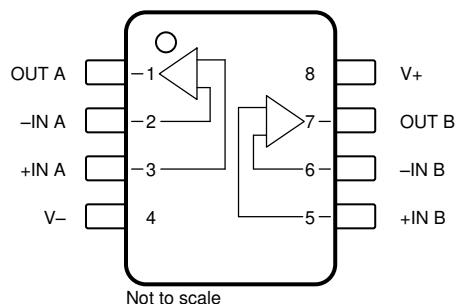

Figure 4-1. Pin Diagram (OPA2376AQRQ1 (D)) Package
4.1 OPA2376AQRQ1 (D) Package
Figure 4-1 shows the OPA2376-Q1 pin diagram for the OPA2376AQRQ1 (D) package. For a detailed description of the device pins please refer to the *Pin Configuration and Functions* section in the OPA2376-Q1 data sheet.